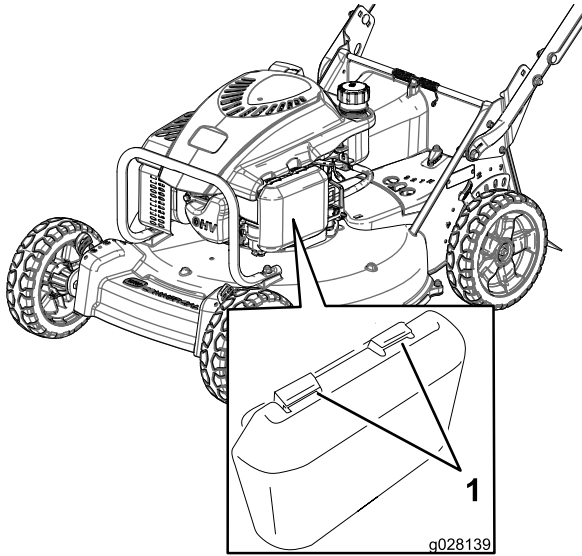

Figure 17
1. Press down on the latch tabs on top of the air cleaner cover (Figure 17).